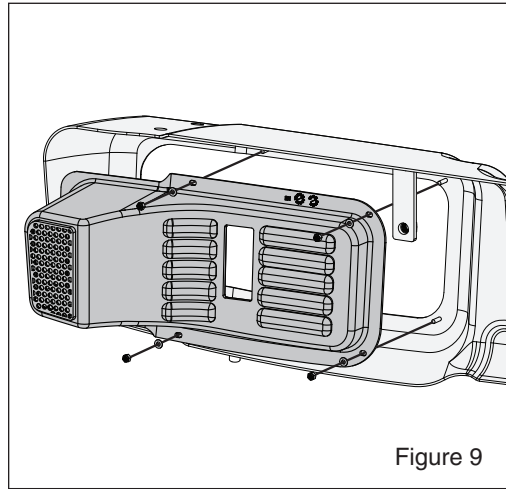

Figure 9
*Install plastic covers on the rear bumper using M4 washers and lock nuts using a 8mm socket. (see FIG9)*